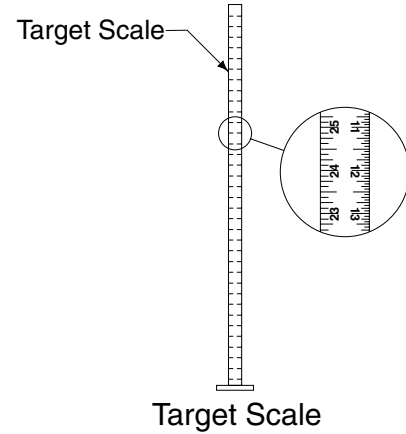

Fig. 16
to as target "A" position. Beginning with target "A" position, Fig. 16, sight the level to the target and mark the number or the graduation on the scale of the target that aligns to the crosshairs of the level, Fig. 17.
- A. Mount power unit, with motor up, to column bracket and install lock nuts. Run hydraulic hose, air lines, limit switch wires and hose covering from runway slot to power unit output port, Fig. 16. **DO NOT use Teflon tape on hydraulic hose connections.** Install and hand tighten elbow to pump until O-ring is seated and elbow should be oriented downward. Tighten locknut to 47-54N.M. (35-40 FT-LB.). Install, enclosed, capacity label on power unit, Fig. 16.